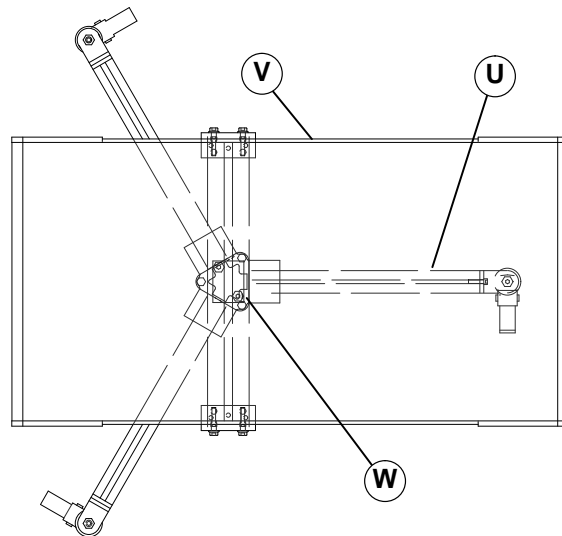

Figure 4
NOTE: One stand leg (U of Figure 4) must be oriented parallel to conveyor (V). Use t-slot (W) for connection to support stand.